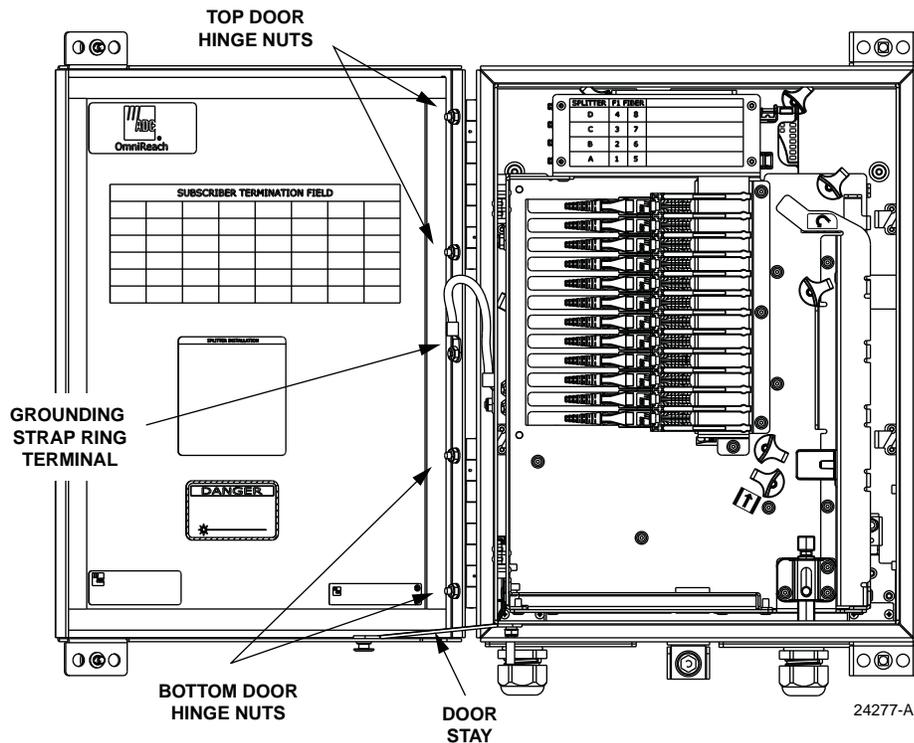

Figure 68. Door Replacement
1. Open the cabinet doors and lock it in the open position as shown in Figure 68.